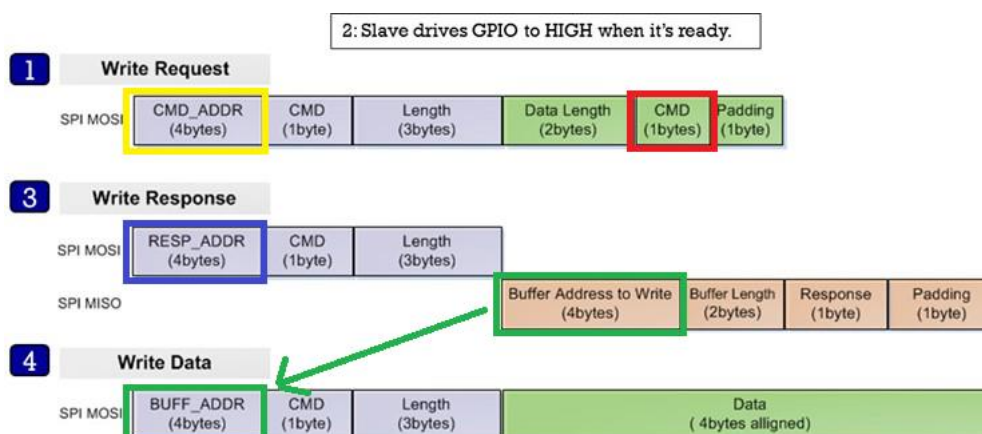

Figure 3. Write operation structure
1. The Host sends a WRITE_REQ command (0x80, red rectangle in Figure 3) to the General Command address (0x50080254) (yellow rectangle in Figure 3).
3. The Host reads the Write Response message by Response Command address (0x50080258, blue rectangle in Figure 3) and parse it using struct `_st_host_response` (see Section 3.2.2).
4. The Host sends data to address (BUFF_ADDR) which is received from the Slave in the Write Response message (green rectangle in Figure 3).